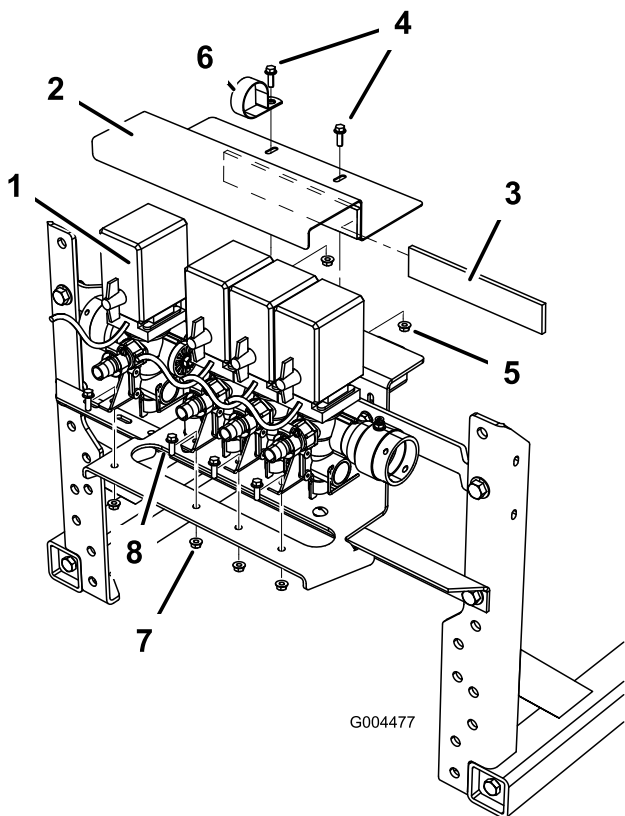

Figure 11
5. Secure the valve assembly to the valve bracket support using the fasteners that you previously removed (Figure 11).
6. Install the foam strip to the upper valve bracket (Figure 11).